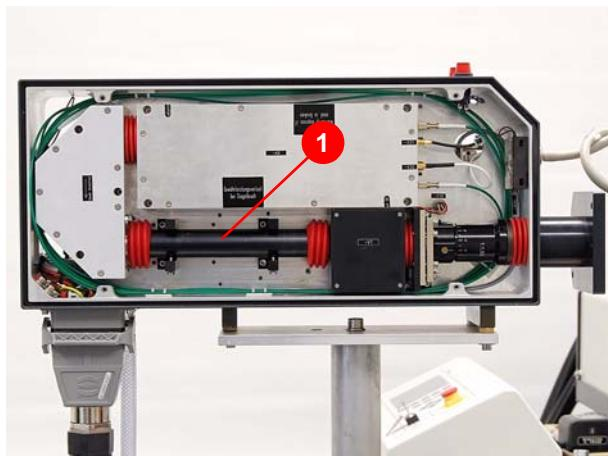

Figure 7.40 Dismantling the beam guide
2. Remove the beam guide (1) (Figure 7.40) of the laser head.